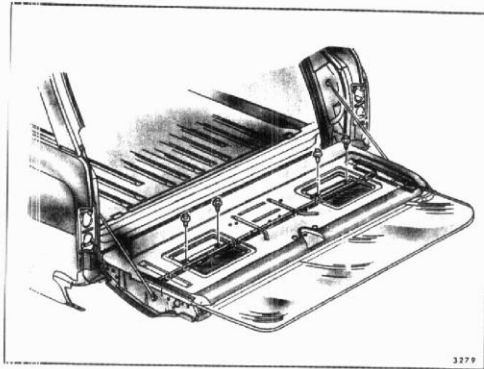

Fig. 9-49-Tail Gate Inner Cam Adjustments
2. Operate tail gate window to a point that sash channel cam attaching bolts are accessible as depicted in Fig. 9-49.